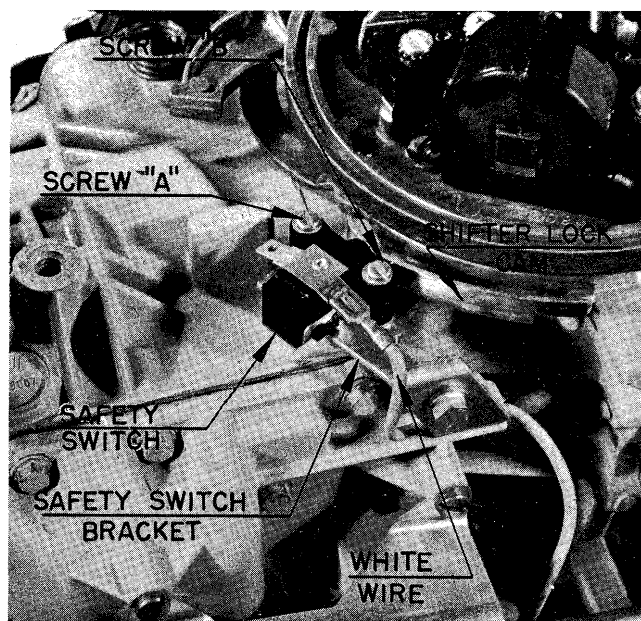

Figure 6
1. Disconnect white wire from safety switch (Figure 6).
NOTE: Loosen screws A and B (Figure 6) to adjust switch. If contacts break early, move switch assembly *towards* shifter lock cam. If contacts break late, move switch *away from* shifter lock cam.